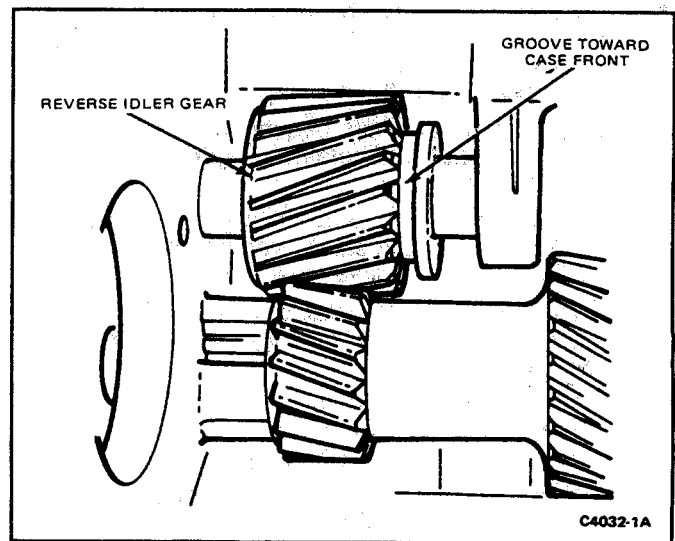

FIG. 13 Reverse Idler Gear Installation
5. Position the reverse idler gear assembly in the case and install the idler (small end of the shaft toward the front). Shift fork groove of the gear should be toward the front of the case (Fig. 13). Do not drive the shaft completely into position.